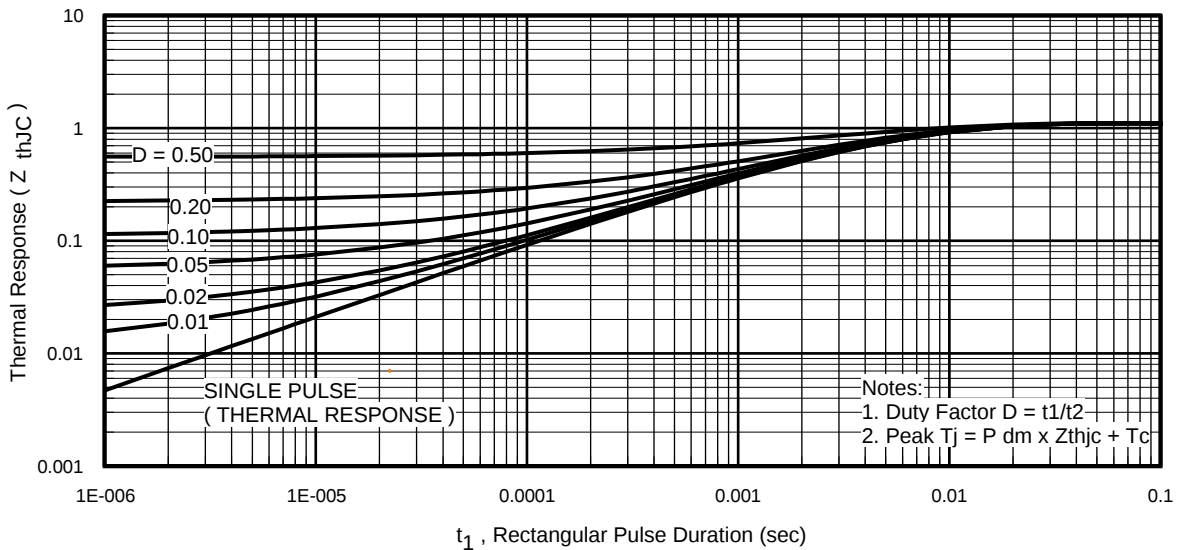

Fig 11. Maximum Effective Transient Thermal Impedance, Junction-to-Case
- ① Repetitive rating; pulse width limited by max. junction temperature. (See fig. 11).
② Limited by T_{Jmax} ; starting $T_J = 25^\circ\text{C}$, $L = 0.05mH$
$Z_{thJC}(D, t_{av})$ = Transient thermal resistance, see figure 11)